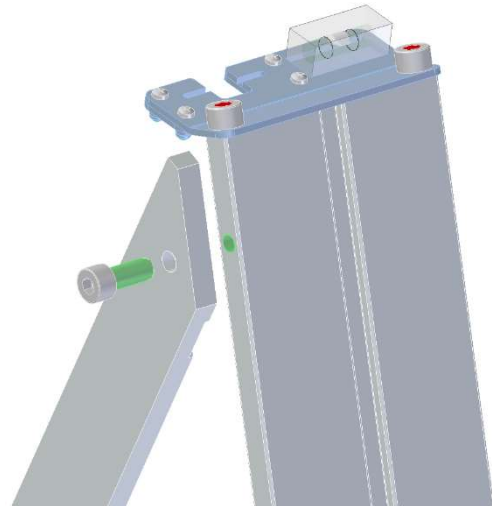

Fig. 1: Attachment of stand rod to stand board
- Undo the screw (see Fig. 1), fold out the stand rod.